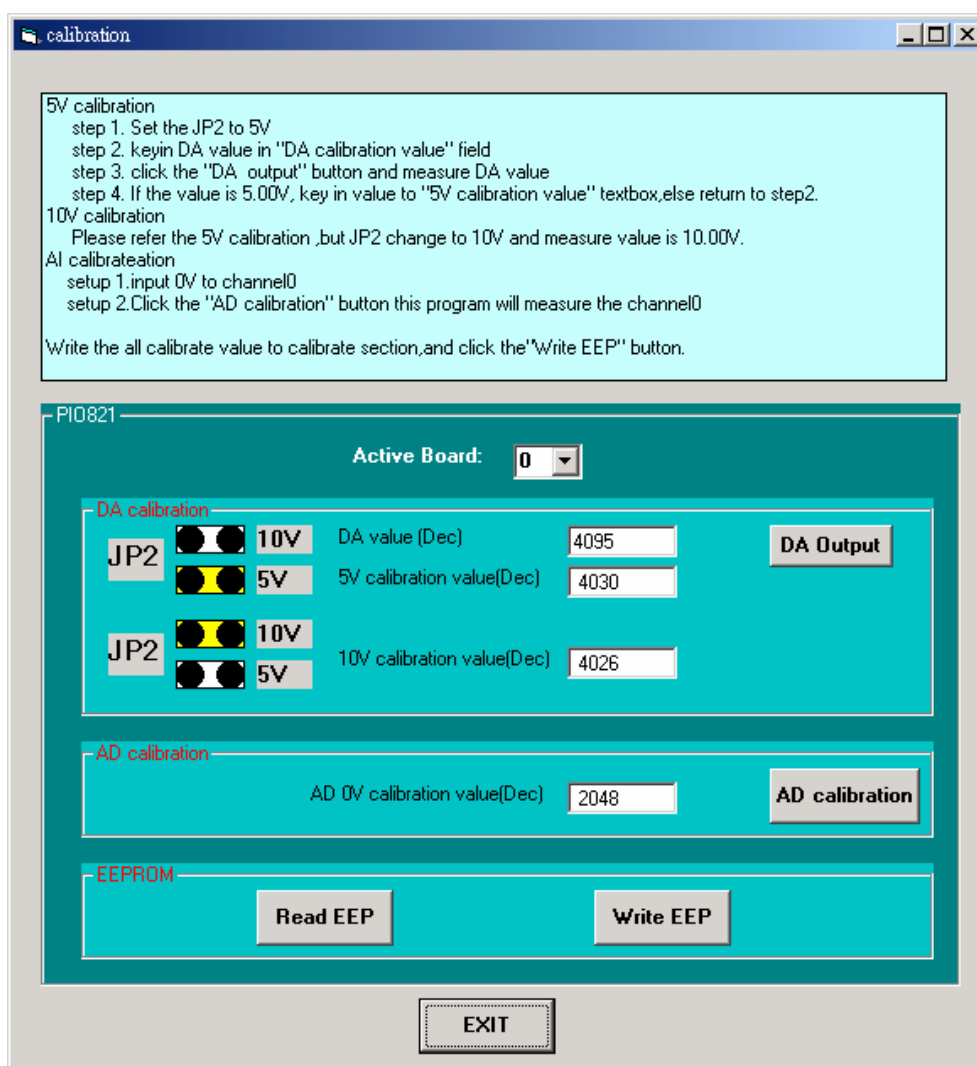

Figure 3.1.
- Step 2. Run the calibration tool, which is located in “/program files/DAQpro/PIO-821/calibration.exe” in order to open the configuration interface, as shown in Figure 3.1.